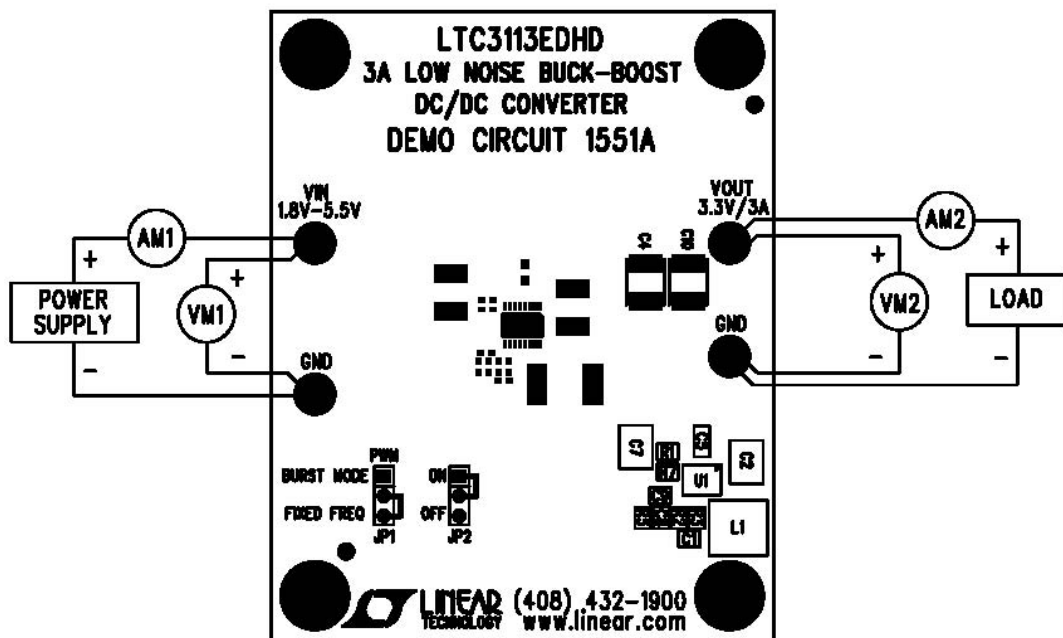

Figure 2. Measurement Setup
Using short twisted pair leads for any power connections and with all loads and power supplies off, refer to Figure 2 for the proper measurement and equipment setup. The Battery/Power Supply (PS1) should not be connected to the circuit until told to do so in the procedure below.
2. With power OFF connect the power supply (PS1) as shown in Figure 2. If accurate current measurements are desired (for efficiency calculations for example) then connect an ammeter in series with the supply as shown. The ammeter is not required however.
3. Connect the load to VOUT as shown in Figure 2. Again, connect an ammeter if accurate current measurement or monitoring is desired.